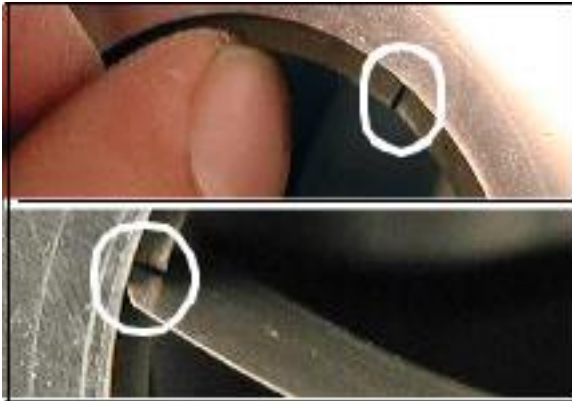

Fig. 8
Insert the top ring into the cylinder about an inch below the surface of the head ([A] Fig. 8).
2. Measure gap with feeler gauge ([B] Fig. 8) as shown.